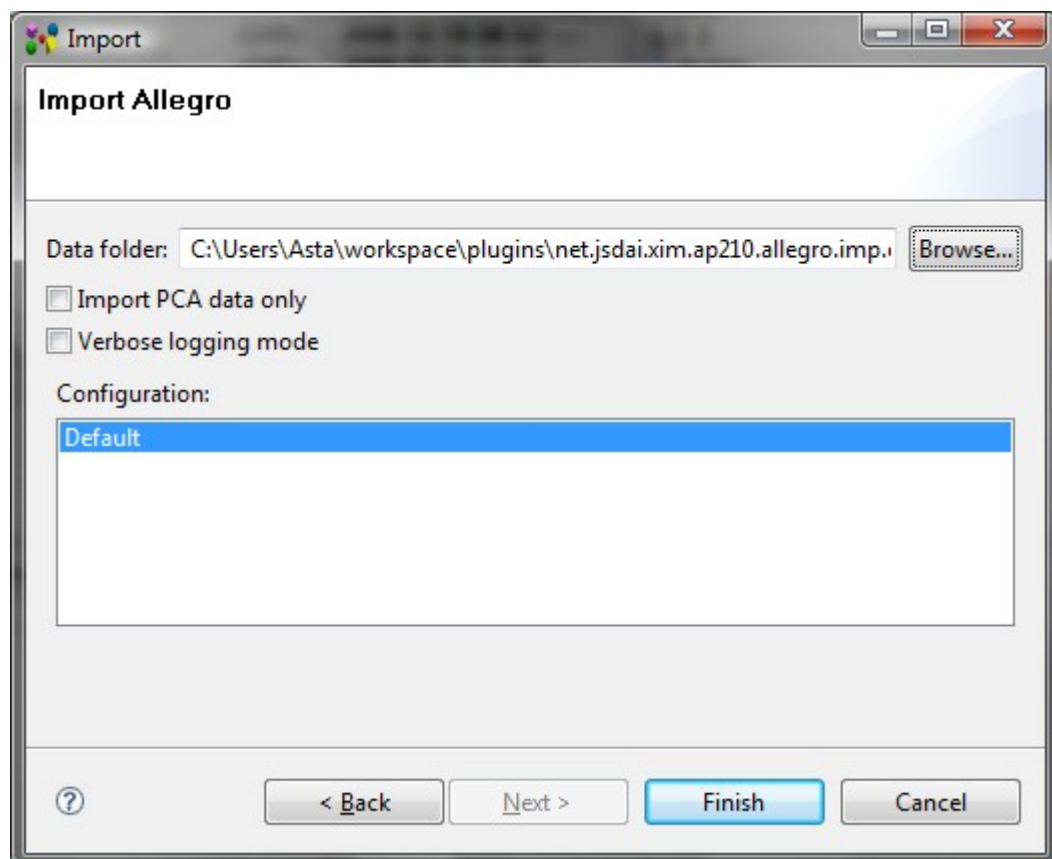

Figure 2. Import Allegro wizard dialog with a specified path to the data folder
- A path to the selected data folder appears in the **Data source** field (see Figure 2).